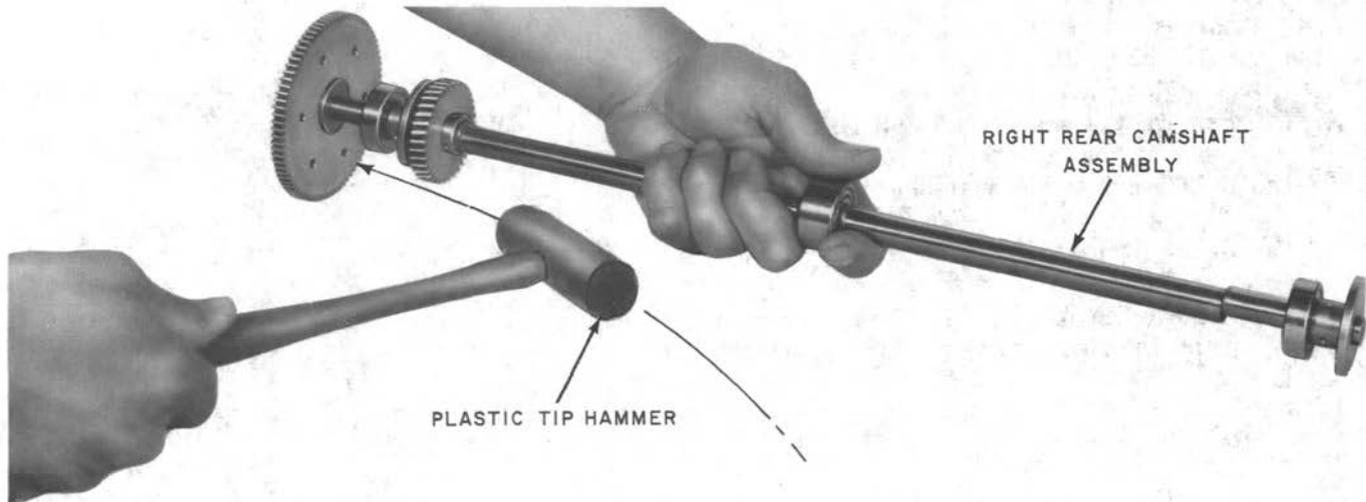

Fig. 55—Disengaging Rear Camshaft Assemblies (Later Arrangement)
- (43) If the front and rear camshafts are not coupled together by use of the later yoke assembly arrangement, proceed as follows.
- Grasp the center bearing (Fig. 55) loosely and very lightly tap the large gear surface using the plastic tip hammer until the camshafts are separated.